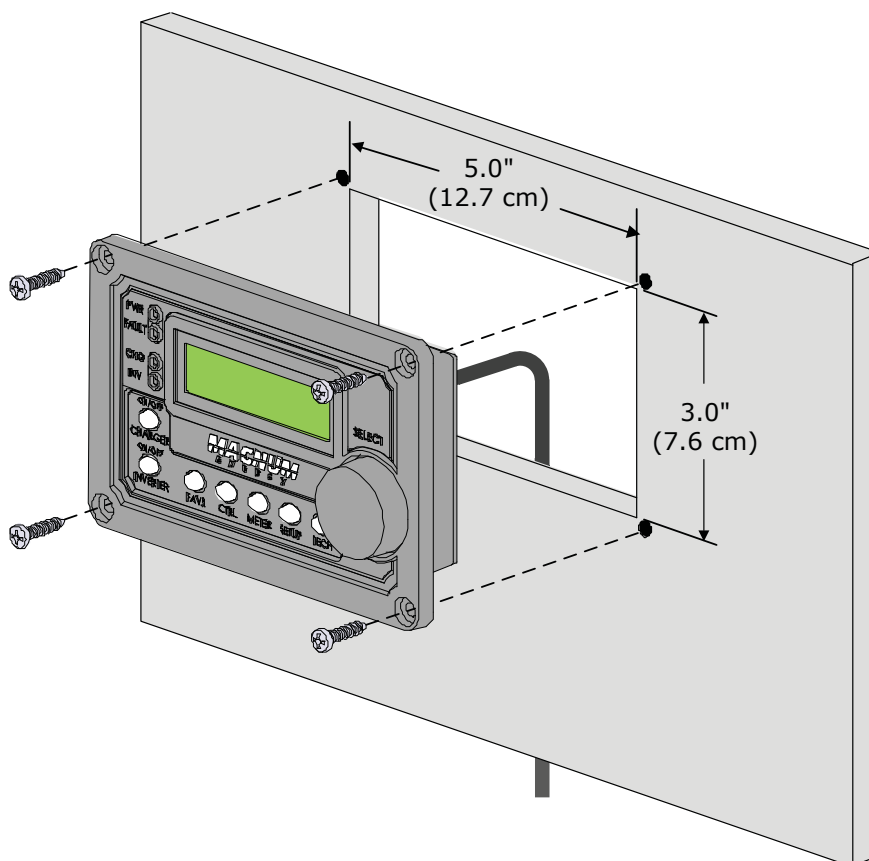

Figure 2-5, Flush Mounting the ME-ARC
1. Cut an opening in the wall (Figure 2-5). Ensure there are no openings around the display and enough material for the screws to secure the unit.